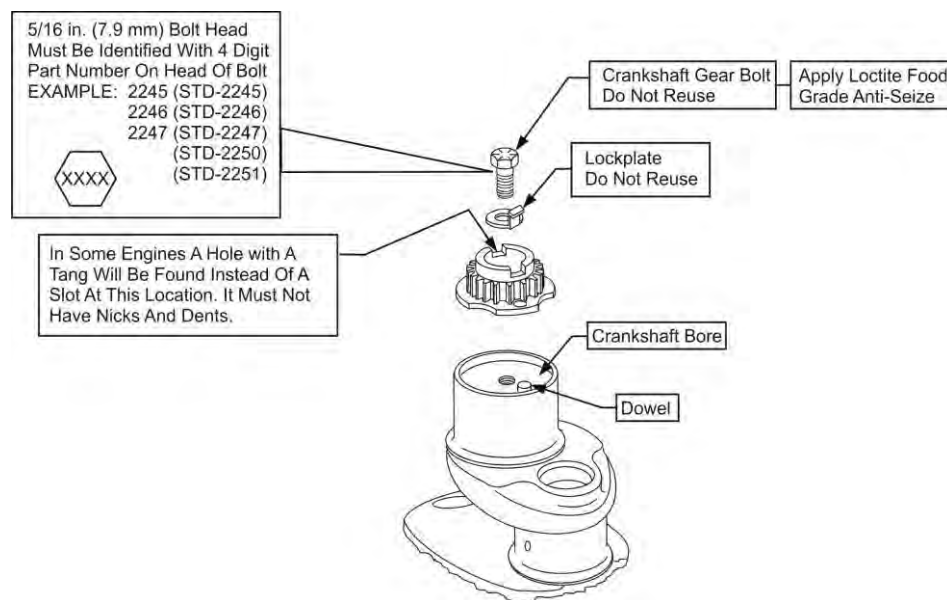

Figure 41
- (1) Start with a clean crankshaft that passed the “Crankshaft Inspection” in this chapter.
- (2) Make sure the mating surfaces of the crankshaft gear and crankshaft counter-bored end are clean and dry and that there is no debris. Refer to the procedure “Crankshaft Cleaning” and Crankshaft Counterbore Cleaning” in Chapter 5-30 in this manual.
- (3) Install the crankshaft (with the counter-bored end vertically upright) securely in a holder.
- (4) Install the crankshaft gear on the alignment dowel of the crankshaft counter-bored end as shown in Figure 41. Use a soft mallet as needed to seat the gear in place.
- (5) Refer to the latest revision of Service Bulletin No. SB-475 or the applicable parts catalog to identify the correct part number for the new crankshaft gear bolt and lockplate for the applicable crankshaft gear part number.
- (6) Make sure that the threads on the new crankshaft gear bolt (Figure 41) and the threads in the counterbored end of the crankshaft are clean and dry and that there is no debris.
- (7) Apply a small amount of Loctite® Food-Grade AA anti-seize lubricant or equivalent to the bottom three or four threads of the new crankshaft gear bolt. Wipe away any excess lubrication.